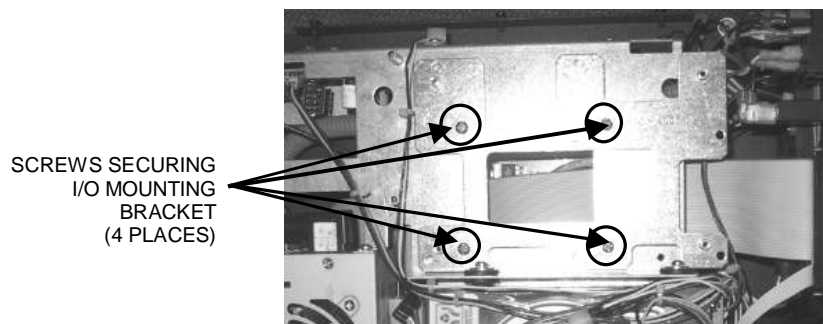

FIGURE 20 - NEW I/O MOUNTING BRACKET IN VIBE GAME
9. Install the provided metal I/O board mounting bracket in the game where the original I/O board was mounted, and secure it using the 4 provided screws. See Figure 20.